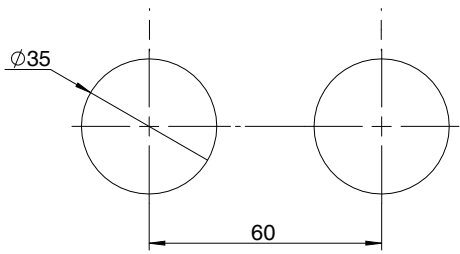

Figure 2-3
① Drill holes on the hull through the fixing guide referring to the figure 2-3.